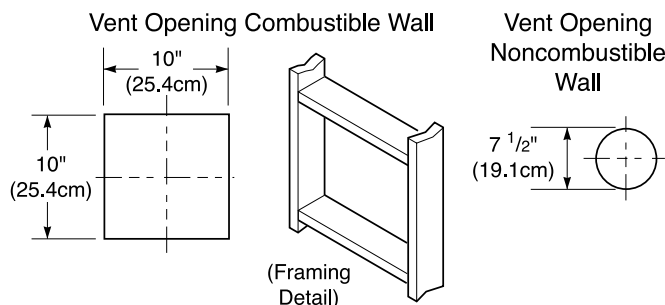

Figure 24 - Vent Opening Requirements
3. Attach vent pipe assembly to the burner system. Set stove in front of it's permanent location to insure minimum clearances. Mark the wall for a 10" (25.4cm) square hole (for noncombustible material such as masonry block or concrete, a 7 1/2" (19.1cm) diameter hole is acceptable). See Figure 24. The center of the hole should line up with the center-line of the horizontal rigid vent pipe. Cut a 10"x10" (25.4cm x 25.4cm) square hole through combustible exterior wall (7 1/2" [19.1cm] diameter hole if noncombustible). Frame as necessary (see Figure 24).
1. Cut a 10" (25.4cm) square hole in the ceiling using the locating hole as a center point. The opening should be framed to 10"x10" (25.4cm x 25.4cm) inside dimensions, as shown in Figure 24 on page 14 using framing lumber the same size as the ceiling joists. If the area above the ceiling is an insulated ceiling or a room, nail firestop from the top side. This prevents loose insulation from falling into the required clearance space. Otherwise, install firestop below the framed hole. The firestop should be installed with no less than three nails per side (see Figure 32).
3. Cut a hole in the roof using the locating hole as a center point. (Cover any exposed open vent pipes before cutting hole in roof.) The 10"x10" (25.4cm x 25.4cm) hole must be measured on the horizontal; actual length may be larger depending on the pitch of the roof. There must be a 1" clearance from the vent pipe to combustible materials. Frame the opening as shown in Figure 24 on page 14.